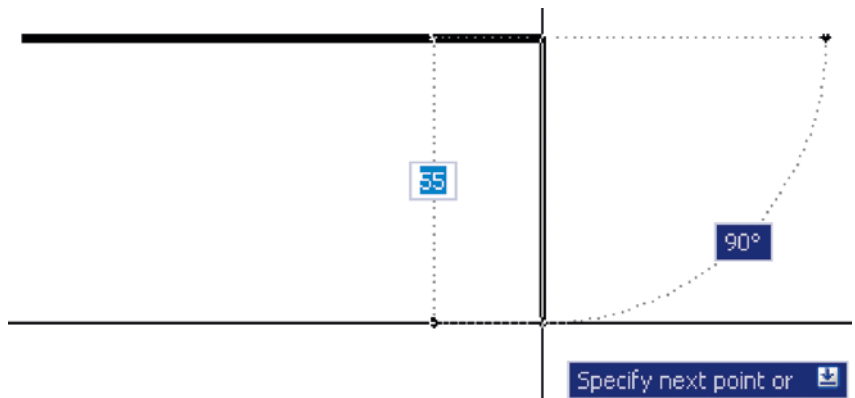

Fig. 3.30 Dynamic Input – first example – Polyline – the vertical height
- Drag the cursor down until the vertical distance shows and *left-click* (Fig. 3.30).